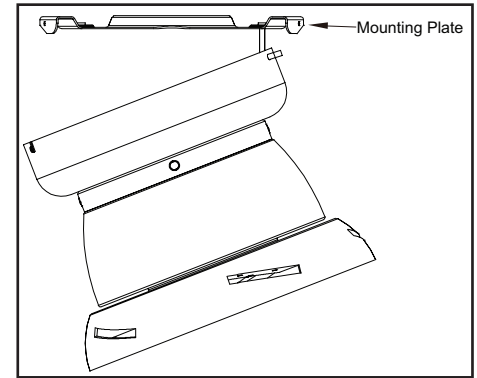

Figure 5
2. Carefully lift the fan-motor assembly and engage the slot in the motor bracket on the top of the fan-motor assembly with the hook on the mounting plate so that it is securely suspended. (Figure 5)